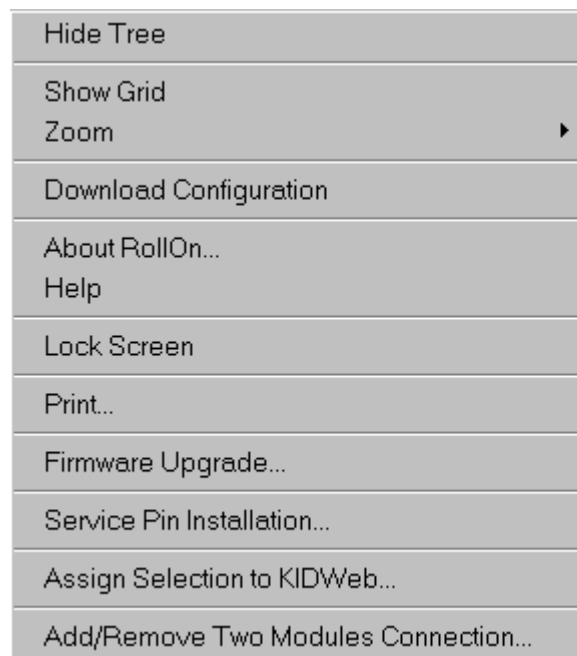

Fig. 7.7
- Right-click on the project field to open the drop-down menu - Fig. 7.7